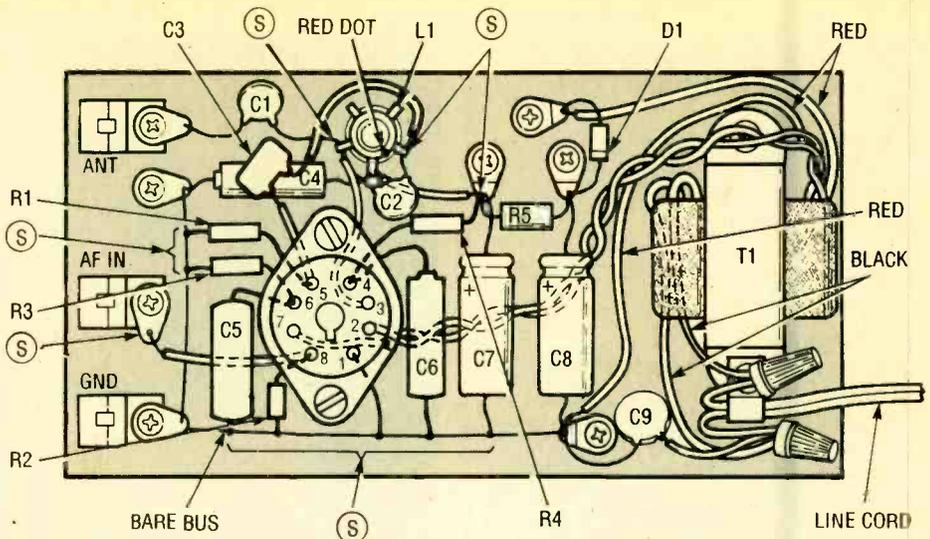

Fig. 6. Mount the tube socket, using two 1 1/2-inch, #6 round-head wood screws. After that, make all of the connections shown here to complete the transmitter.
**Final Assembly.** If you have followed all of the instructions in sequence, you have already drilled the holes necessary to mount the tube socket and associated parts. Mount the tube socket (as shown in Fig. 6), using two 1 1/2-inch, #6 round-head wood screws. After you have mounted the sub-assembly, make all of the remaining connections (refer to Fig. 6). That will complete your transmitter. Check all of your wiring carefully before going on.